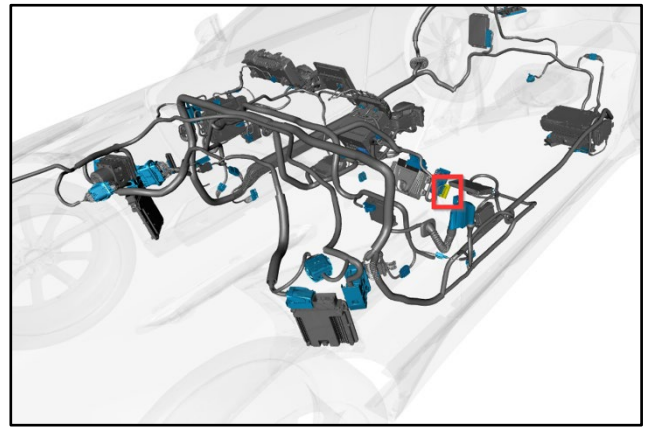

Figure 17
7. **Periphery CAN** – This header is in the instrument panel next to the DRVU (refer to Figure 17).